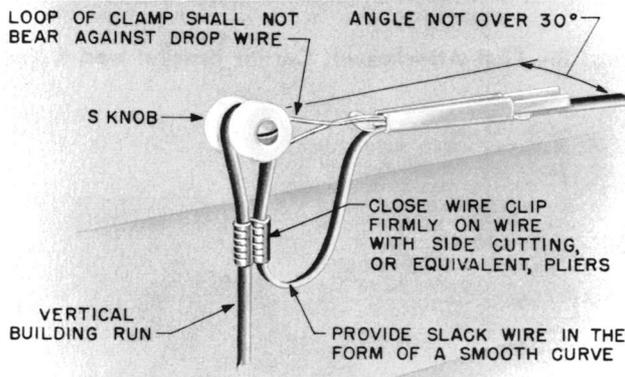

Fig. 2 - T Knob
**1.03** The T knob (Fig. 2) is designed to accommodate two drop wires.